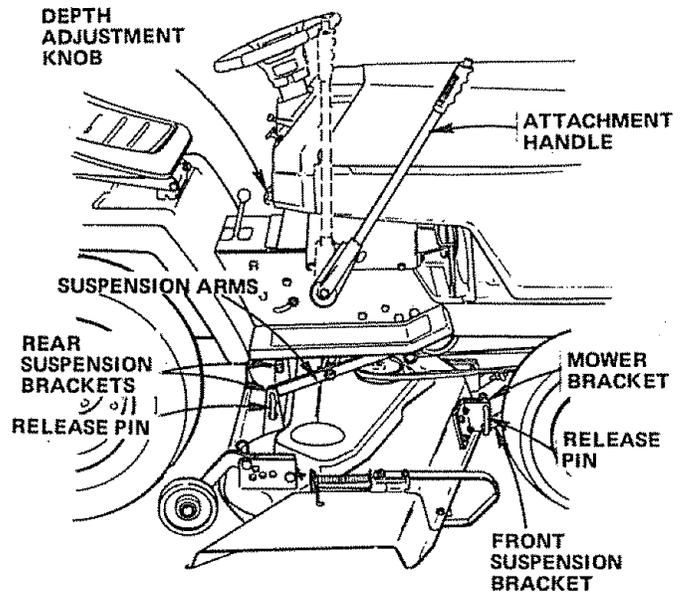

FIGURE 15
7. Slide Front Suspension Brackets into Mower Brackets. Retain with Release Pins (Fig. 15). Turn Depth Adjustment Knob counterclockwise (⤿) until it stops.
8. Slide Suspension Arms into Rear Suspension Brackets. Retain with Release Pins (Fig. 15).
9. Turn Depth Adjustment Knob (Fig. 15) clockwise (⤻) to remove slack from Mower Suspension. Raise Attachment Handle to full up position.